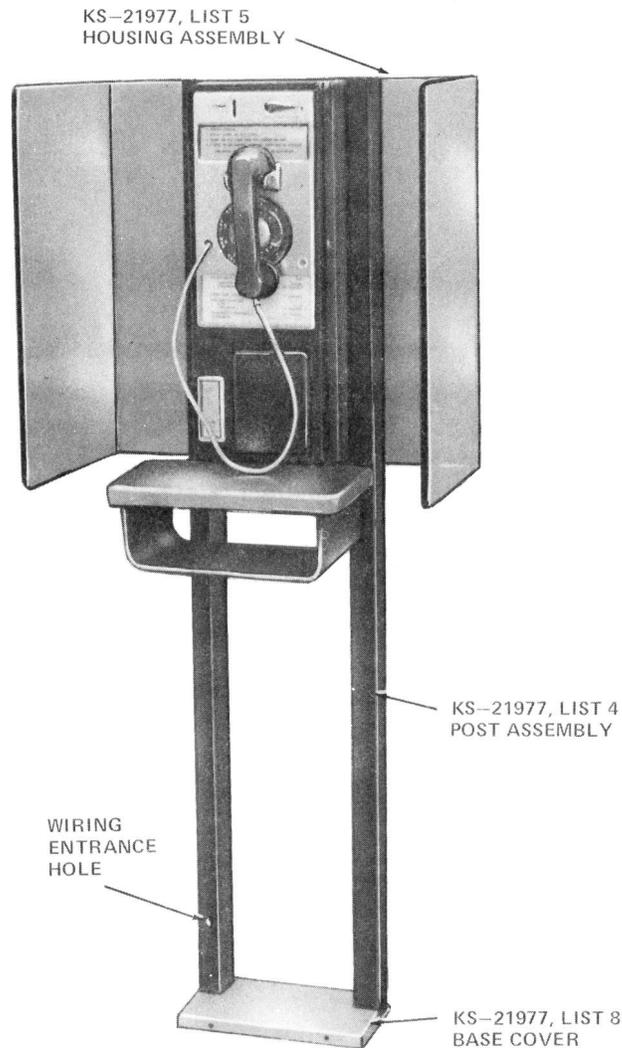

Fig. 1—KS-21977, List 1 Post Mounting
1.01 This section contains information on the KS-21977 coin telephone mounting. The KS-21977 coin telephone mounting (Fig. 1 and 2) is a transparent tinted gray color U shaped mounting intended for indoor use. It can be post or wall mounted.
- Replace Fig. 1 with current model mounting